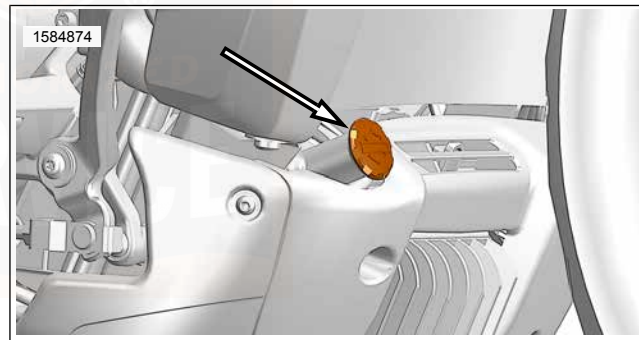

Figure 68. Coolant Filler Cap/Dipstick (Typical)
3. Remove coolant plug/dipstick. See Figure 68.
5. If level is below "MIN" line (1), add GENUINE HARLEY-DAVIDSON EXTENDED LIFE ANTIFREEZE AND COOLANT until fluid level reaches the "MAX" line (2).
6. Install coolant reservoir plug/dipstick. See Figure 68.